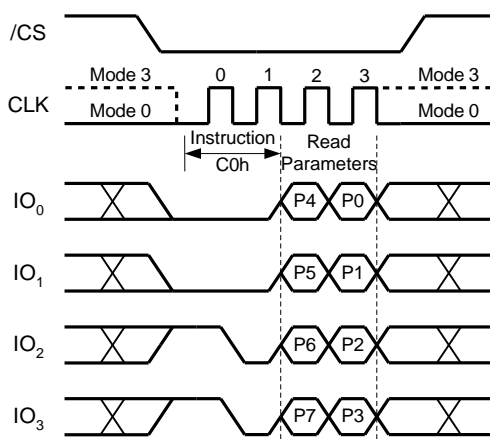

Figure 54. Set Read Parameters Instruction (QPI Mode only)
To read out the lock bit value of a specific block or sector as illustrated in Figure 4d, a Read Block/Sector Lock command must be issued by driving /CS low, shifting the instruction code "3Dh" into the Data Input (DI) pin on the rising edge of CLK, followed by a 24/32-bit address. The Block/Sector Lock bit value will be shifted out on the DO pin at the falling edge of CLK with most significant bit (MSB) first as shown in Figure 54. If the least significant bit (LSB) is 1, the corresponding block/sector is locked; if LSB=0, the corresponding block/sector is unlocked, Erase/Program operation can be performed.